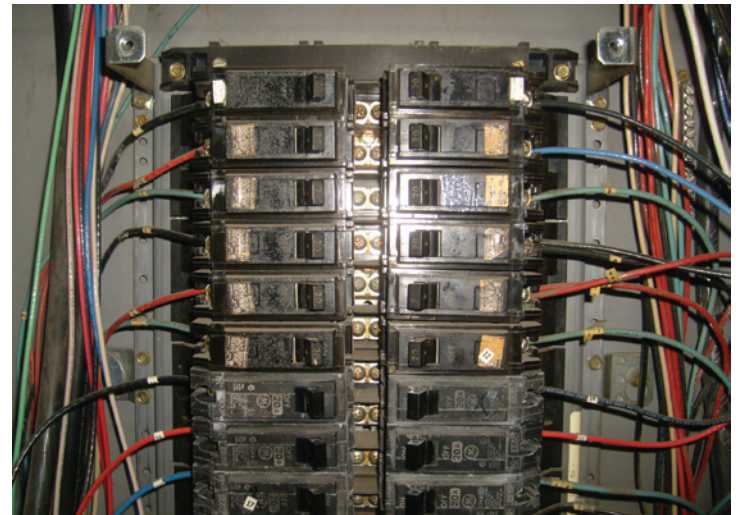

Figure 4 – Double tapped breakers on a distribution panel
- Panel breakers double tapped (Figure 4)